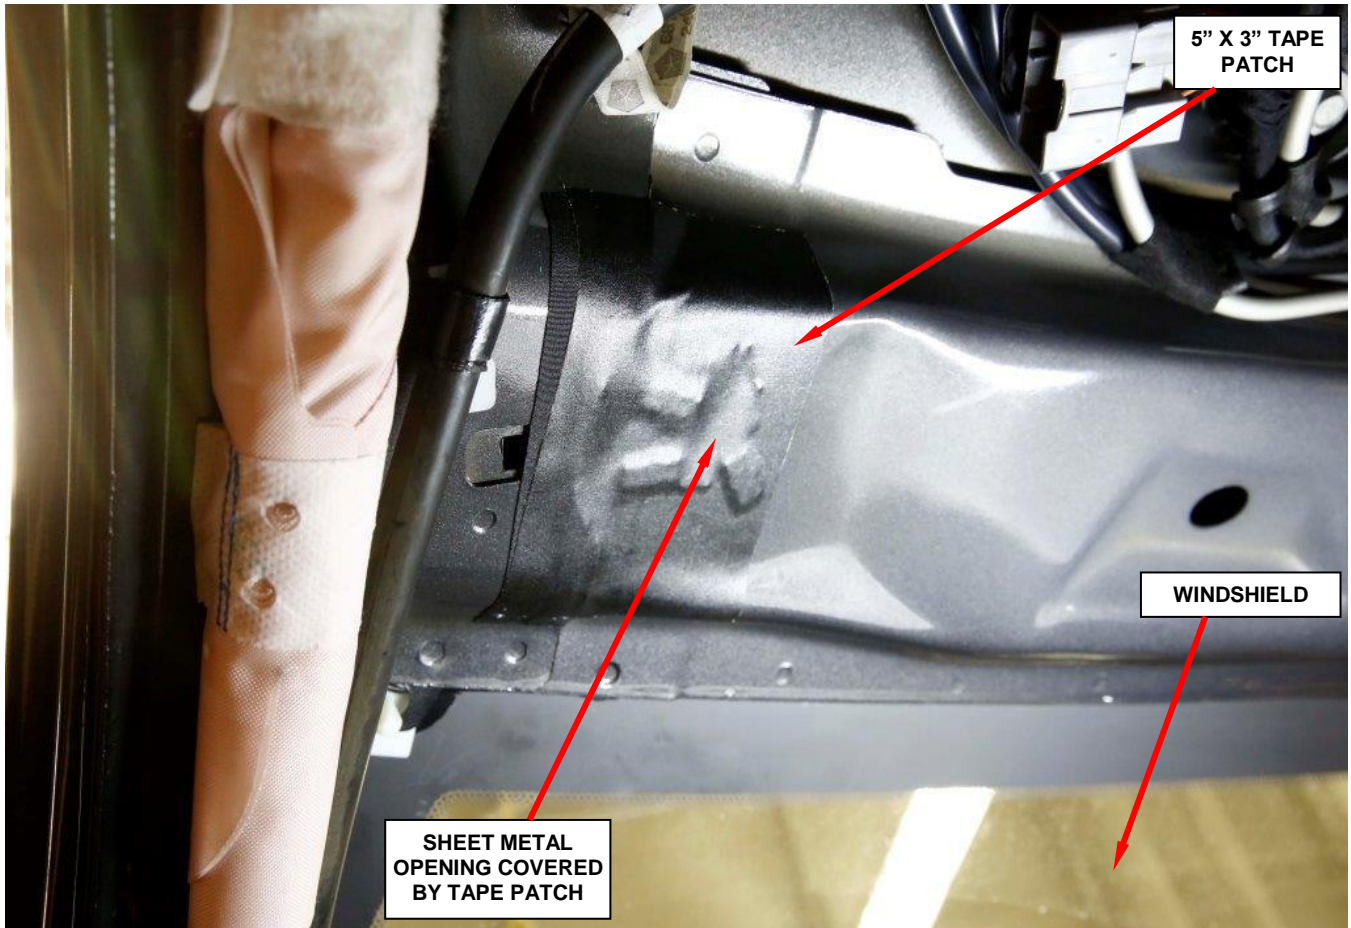

Figure 21 – Apply 5”x 3” Tape Patch over the Abrasion Tape (left side shown)
47. Apply one piece of (5”x 3”) tape patch over the tape applied in Step 46 (Figure 21).